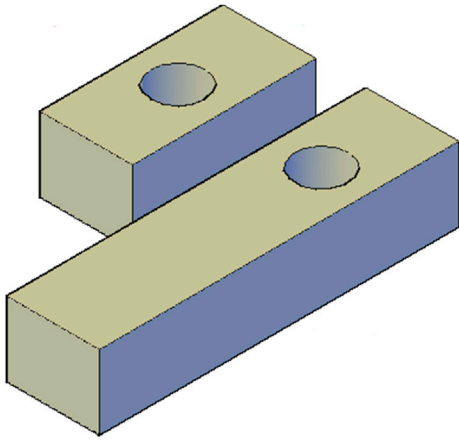

FIGURE 25.21 Offset face 1.
Step 2. AutoCAD once again runs through the lengthy solid editing menu and asks you to select a face. Pick the face you want to offset and press Enter. AutoCAD then asks you to specify the offset distance. Enter some value, and you see the result, similar to what is shown in Fig. 25.21.